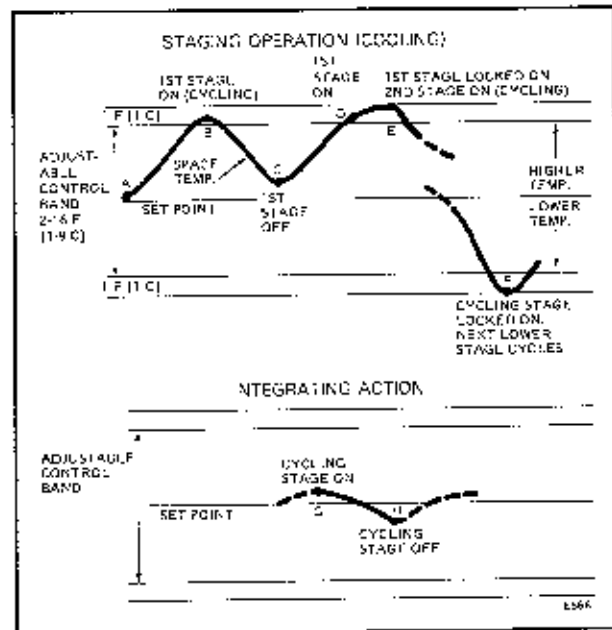

Figure 9. W7100 Discharge Air Temperature Control Operation
Beginning at point A in Fig. 9, as the building load increases, the discharge temperature floats to the upper limit of the control band at point B. At this time, the first stage of cooling energizes for a minimum period of 4 minutes. This brings the discharge air temperature within the control band region. After 4 minutes, the first stage turns off (point C), and the temperature begins to rise again. At least 4 additional minutes have elapsed at point D, and the first stage turns on again. This time, however, the building load has increased until the space temperature rises to the outer limit at point E. At this point (E), the first stage locks on and the second stage cycles on, pulling the discharge temperature back within the control band region. This process continues through all connected stages. The highest number active stage is always the cycling stage. In this way, the equipment is always matched to the required load as closely as possible.